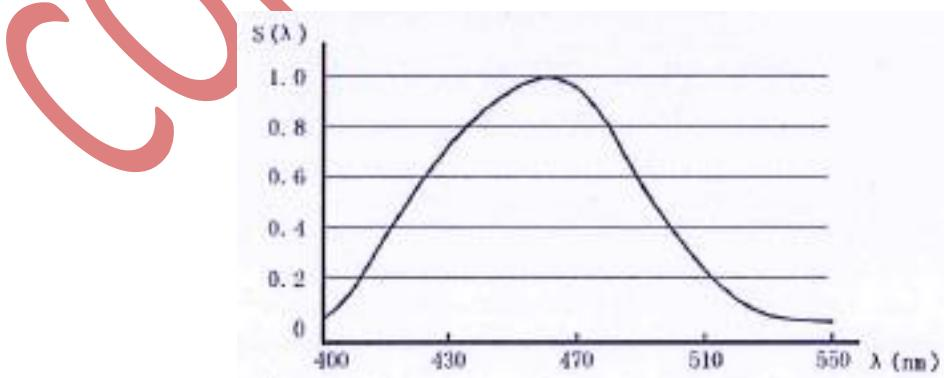

Figure 9-1
- 9.9. The calibration curve of blue light irradiation meter that test total irradiance for bilirubin as below figure 9-1, abscissa indicates irradiance wavelength, and ordinate shows spectral sensitivity of blue light irradiation meter.